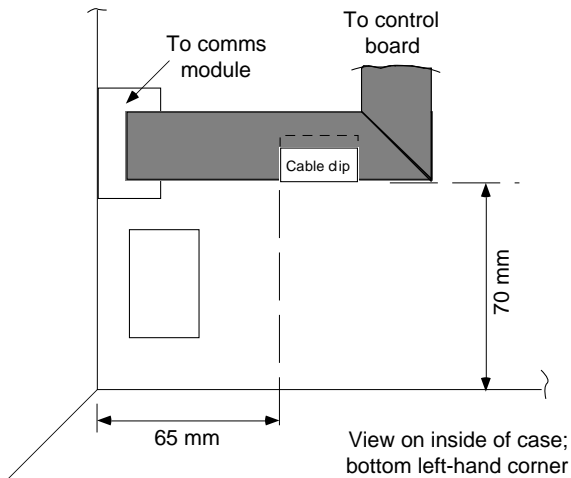

Figure 2.2.2f Cable clip location
9. Fit the plastic cable clip as shown in figure 2.2.2f.
11. Feed the communications module ribbon cable across the inside back of the recorder, secure it with the clip, then fold the cable back on itself and make a right angle turn upwards (figure 2.2.2f).